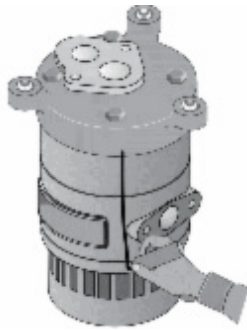

Figure 16
5. Draw a line down the side of the pump with a marker to help alignment during reassembly. Mark the pump from the motor to the base volute (see Figure 16).